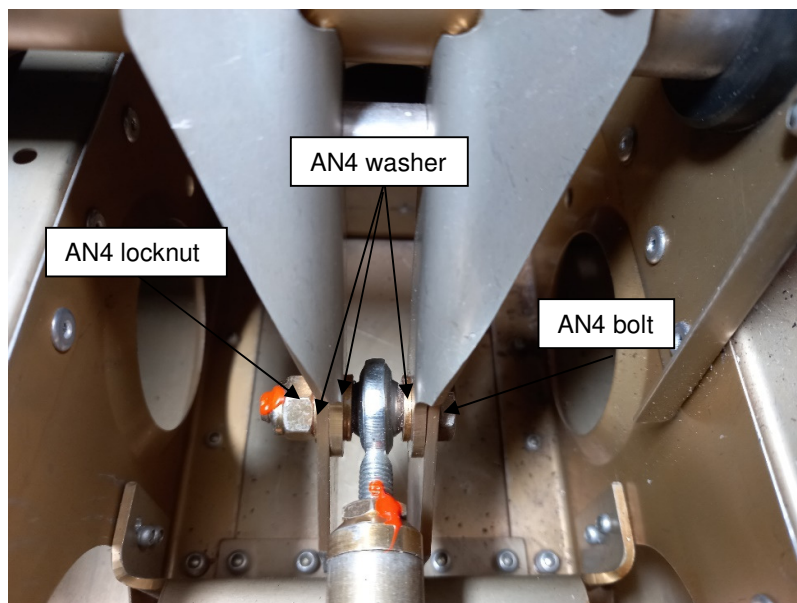

Figure 19: Enlarged view of eyebolt assembly of Detail B
- Step 6. An enlarged view of Detail B can be seen in Figure 19.
- Step 7. Refer to Figure 19 and remove the locknut and bolt.
- Step 9. Reinstall the components, as shown in Figure 19.